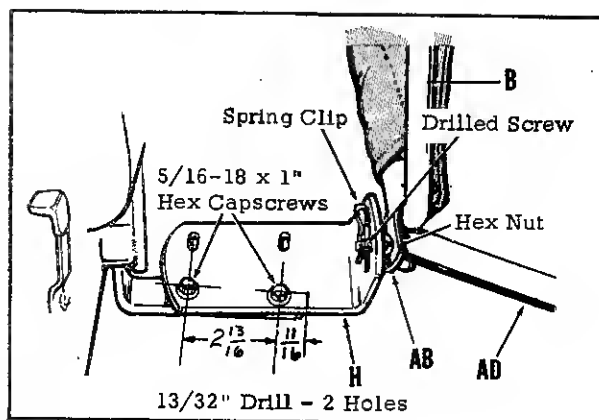

Figure 5
8. Attach the front end of Right Hand Bottom Brace (AD) and Left Hand Bottom Brace (AE) to the lower ends of Side Brace (B) and Hood Frame (AB) as shown in Figure 5. For proper assembly sequence, insert the drilled screw through the hole in Side Brace (B), then add Bottom Brace (AD) or (AE), and then insert drilled screw through hole in end of Hood Frame (AB). Secure with hex nut.
11. Attach the Foot Brackets (H) to the foot rests on each side of tractor, using 5/16-18 x 1" hex capscrews flatwashers, lockwashers, and nuts. Refer to Fig. 5.
13. The drilled screws in the lower end of side brace assemblies are passed through the hole in the foot brackets and are secured in place with spring clips provided. Refer to Figure 5.